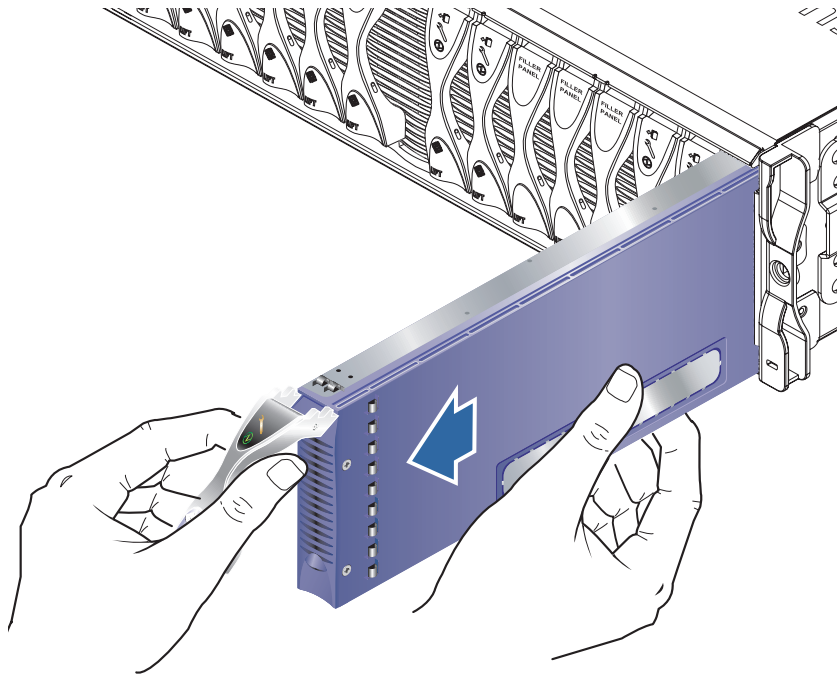

FIGURE 3-4 Removing the Blade or Filler Panel
4. Pull the lever to remove the blade from the system chassis (FIGURE 3-4).